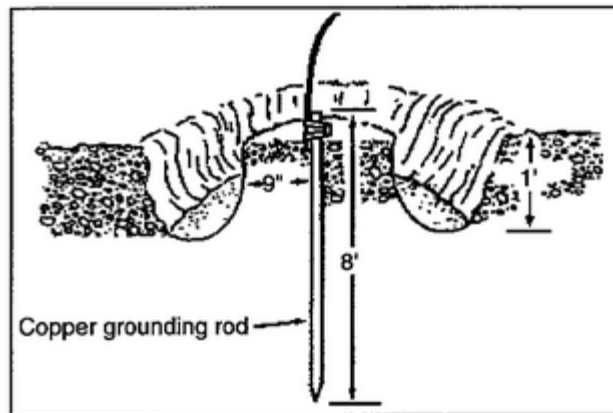

Figure 1-15. Trench dug around grounding rod
- Digging a circular trench around the grounding electrode. The trench should be 1 foot deep and 9 inches away from the electrode (Figure 1-15).